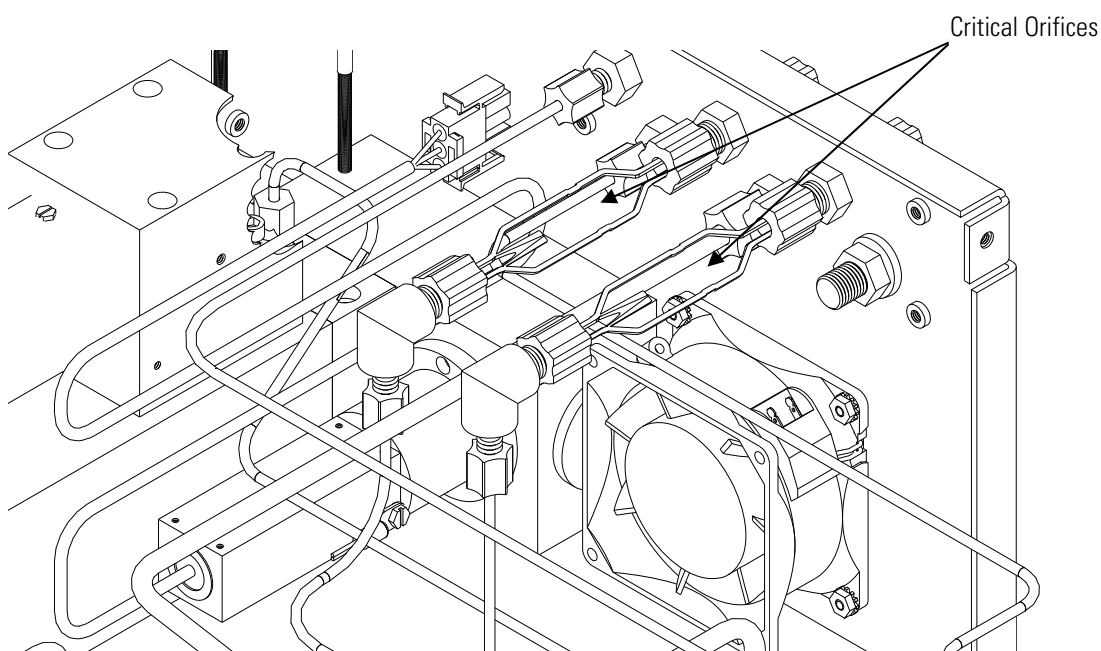

Figure 5–1. Inspecting and Replacing the Orifices
3. Locate the critical orifices at the inside of the rear panel (**Figure 5–1**) and loosen the Teflon fittings.